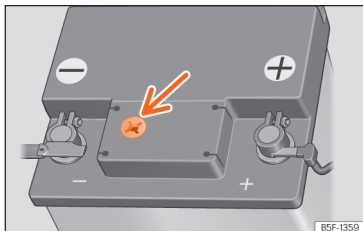

Fig. 178 Sight glass on the top of the 12 volt battery (schematic representation).
- Check the colour display in the sight glass on the top of the battery >>> **Fig. 178**.